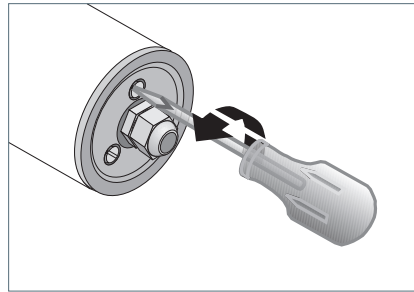

Fig. 7: Opening the side part A.
- Unscrew the three screws on the connection side by about 3 to 4 turns, see Fig. 7.